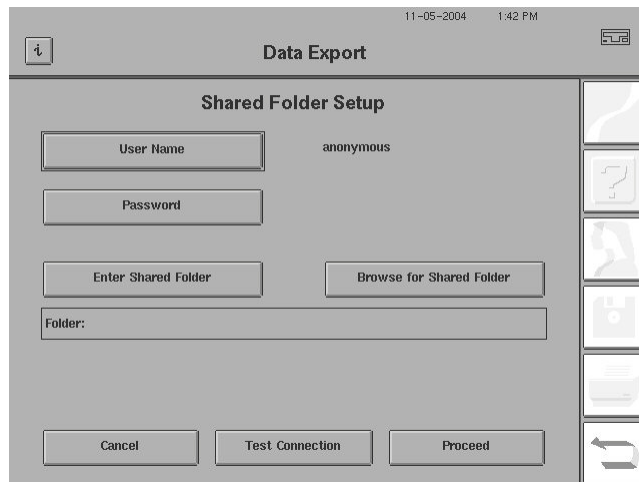

Figure I.12 Shared Folder Setup Screen
If you selected SHARED FOLDER (Windows Shared Folder) in “Setting Up FTP,” on page I-9, the Shared Folder Setup screen will appear (Figure I.12). This section describes setting up to export a Shared Folder.
- 3 Select the SHARED FOLDER SETUP button to bring up the Shared Folder Setup screen (Figure I.12)